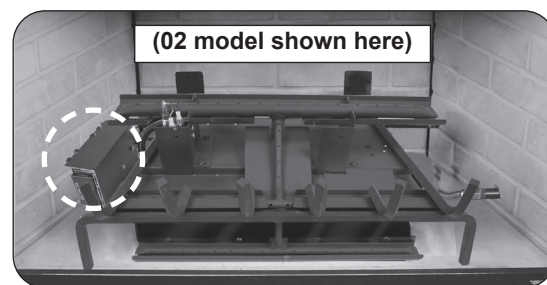
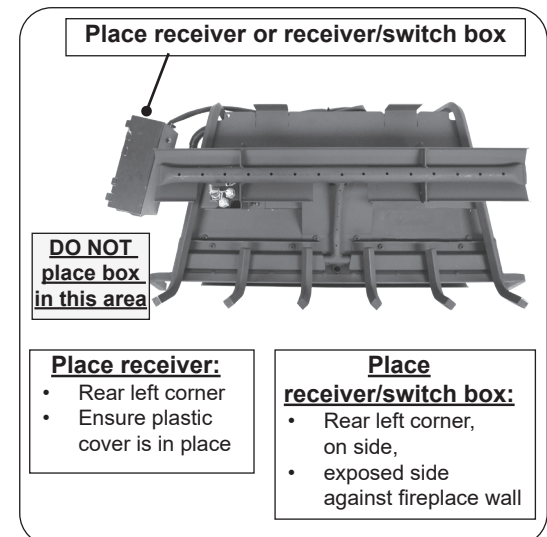

Fig. 15-2 Place receiver/switch box
Fig. 15-4 Proper receiver/box placement
3. Place the burner system in the fireplace. Center the burner from left to right in the fireplace. (Reference Fig. 15-2 for orientation.)
Place the plastic cover over the receiver. Then place on its side, at the rear left corner of the fireplace. Place as far from the burner system as possible. See Fig. 15-2 & Fig. 15-4.
Place on its side, at the rear left corner of the fireplace. It should rest with its bottom as near as possible and facing the fireplace wall. It must not be placed directly next to the burner pan area to avoid damage to the batteries (and remote receiver - 02 models). See Fig. 15-2 & Fig. 15-4.